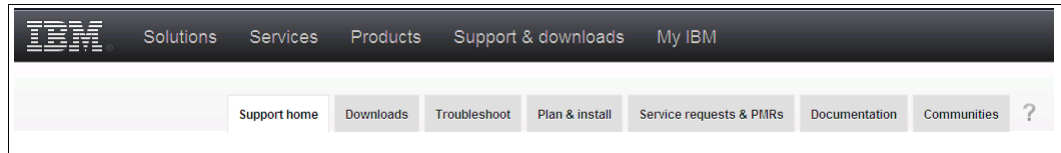
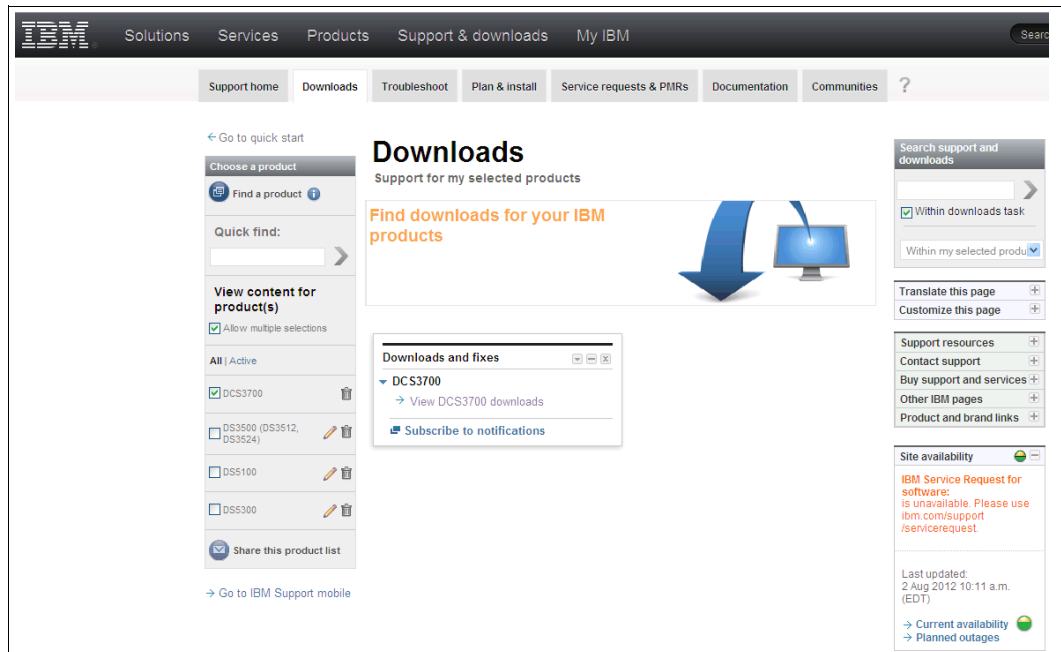

Figure A-5 Choose your task
Figure A-6 Support portal - Downloads page
5. At the top of this page, you can select your function, as shown in Figure A-5. Use these links to select the support option that you want to access.
1. From the Choose your task list (Figure A-5), click **Downloads**. A web page similar to the one shown in Figure A-6 opens.